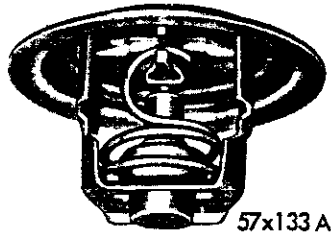

Fig. 7—Thermostat Assembly
- (1) Visually inspect the thermostat (Figure 7) to make sure the valve closes tightly. If the valve does not close completely due to dirt, sand, or other foreign material, clean the valve and seat. If the valve does not close tightly when clean, install a new thermostat.
- (2) Open the valve by hand or by heating in water and insert a $\frac{1}{8}$ " wide strip of .003" feeler stock into the opening and allow the valve to close. If the feeler stock will not hold in place, discard the thermostat.
- (3) Suspend the thermostat, by the feeler stock